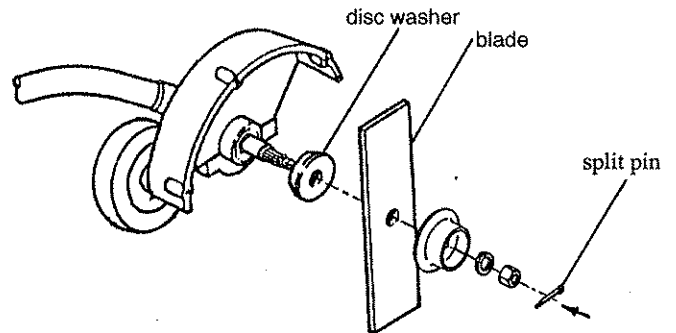

Figure 4
7. Install receive washer to shaft with large side toward blade. Then, install blade, clamp washer, spring washer and nut. Lastly, be sure to install blade by split pin. Figure 4.